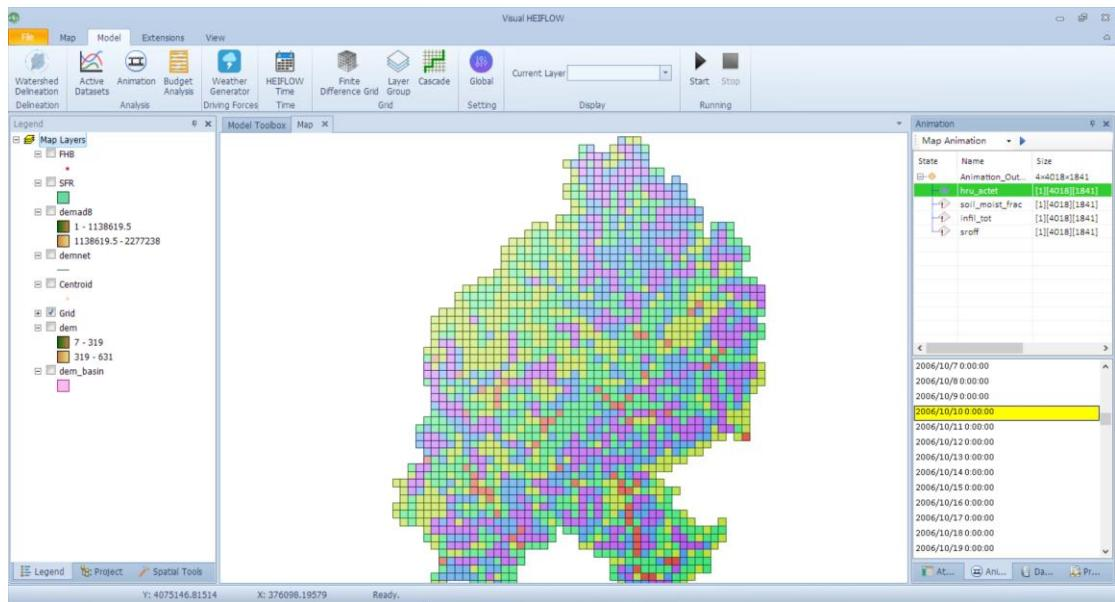

Figure 8-16. Spatial distribution of actual ET on 2006-10-10.
- 5) Left click on any item in the date and time list, the spatial distribution of actual ET on the clicked date is displayed on the map (Figure 8-16).